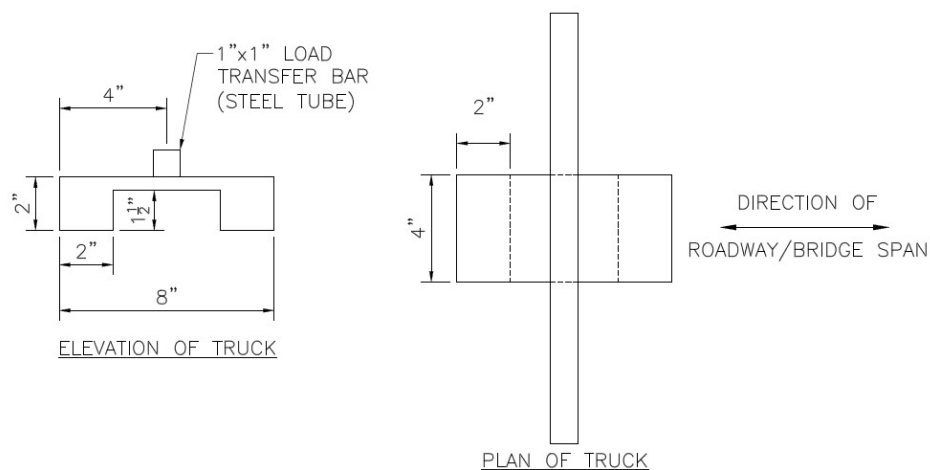

Figure 4: Details of Truck
- If the roadway surface is not along the top of structure, the design must allow for a 1" x 1" load transfer bar (see Figure 4) to be passed through the bridge transversely with the bar's underside 2" above the loading surface, without causing interference with the structure during testing. The design must accommodate the truck being placed in any of the possible loading areas.